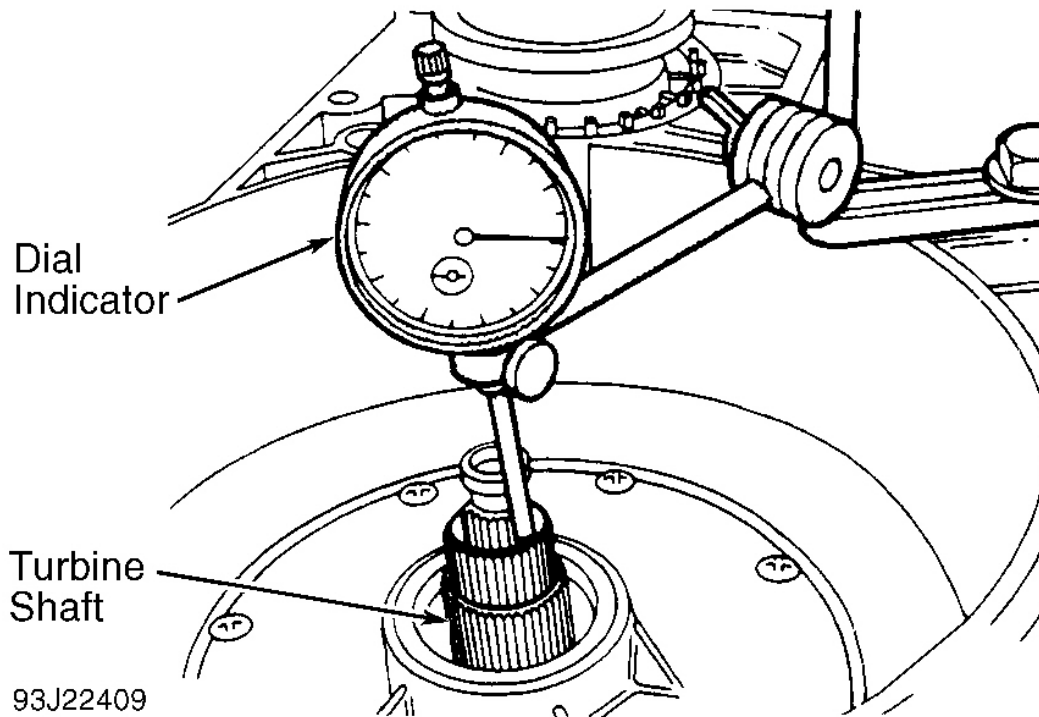
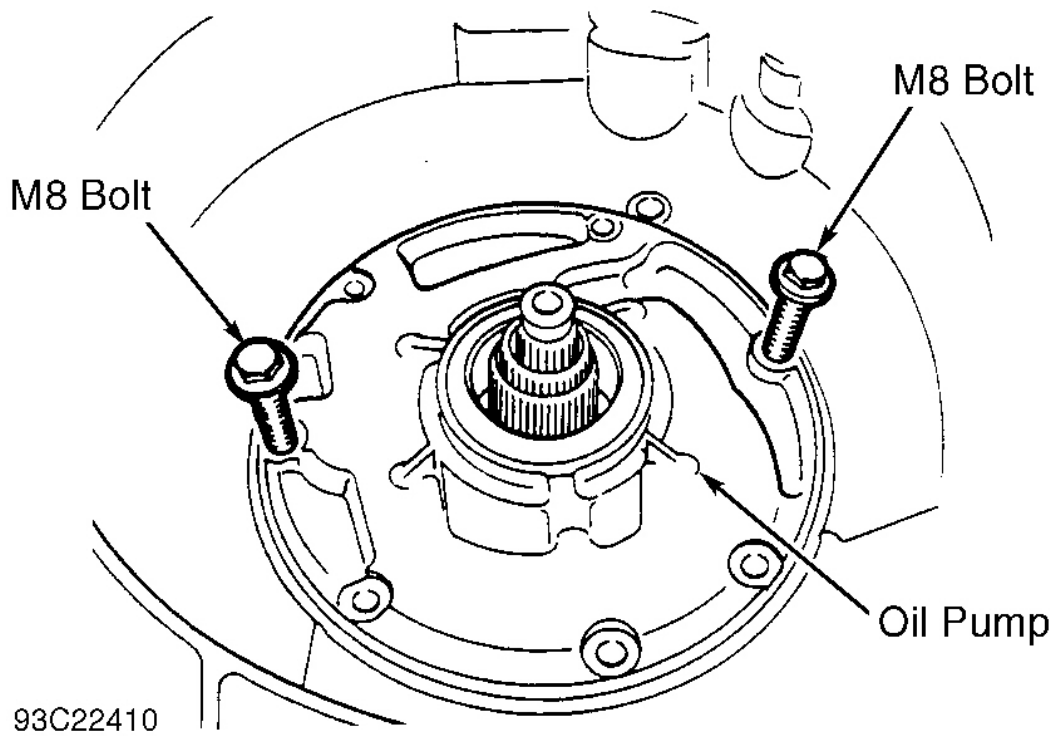

Fig. 21: Checking Turbine Shaft End Play
Fig. 22: Removing Oil Pump
2. Measure and record turbine shaft end play. See **Fig. 21**. Remove oil pump bolts. Using 2 M8 bolts, press oil pump from front of transaxle. See **Fig. 22**.